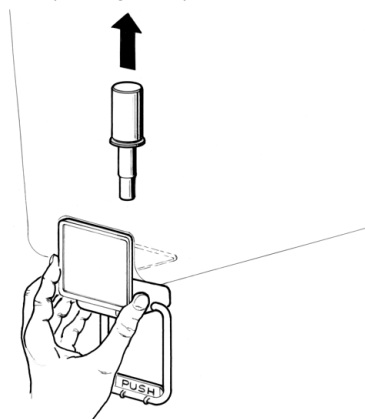

figure 3
- 6 Gravity faucet: extract the piston and then remove the dispensing handle (see figure 3).